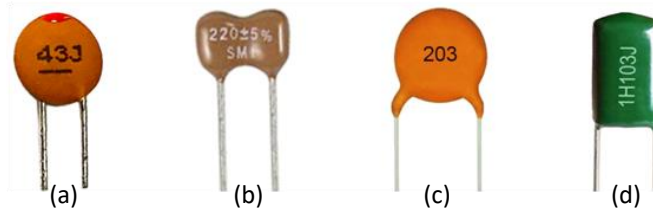

Fig.1-147: Series connected inductors for Ex. 19
18. Determine the value of capacitance of the capacitor shown in Fig.1-147. Calculate the value of reactance ( $X_C$ ) of each of them if the capacitors are used for 60 Hz AC voltage.
19. Determine the value of capacitance of the capacitor shown in Fig.1-147. Calculate the reactance ( $X_C$ ) of each capacitors if they are used for 1 kHz AC voltage.